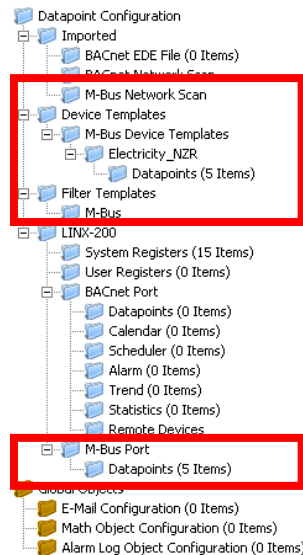

Figure 168: Data Point Manager Dialog with M-Bus folder list
- The folder list (Figure 168)